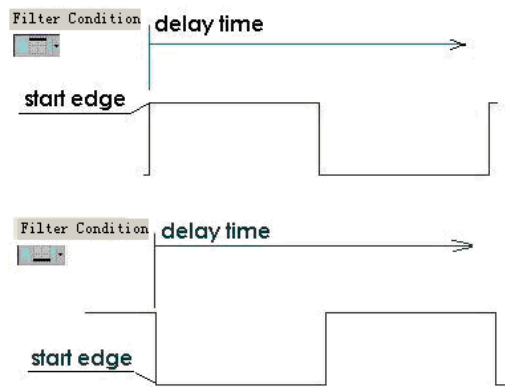

Fig 4-142 – Start Edge
**Tip:** Definitions of the **Start Edge** and the **End Edge** and the **Period + Delay** are listed as Figs 4-142, 4-143, 4-144 and 4-145.